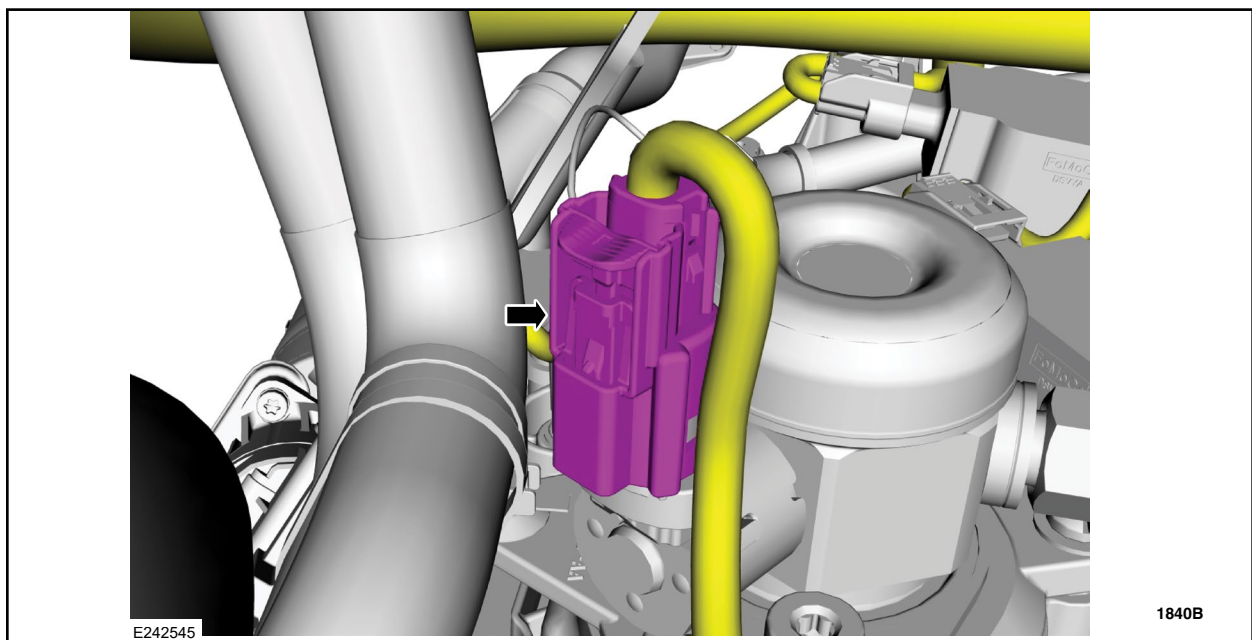

FIGURE 2
4. Disconnect the high-pressure fuel pump electrical connector. See Figure 2.
18. Connect the high-pressure fuel pump electrical connector. See Figure 2.